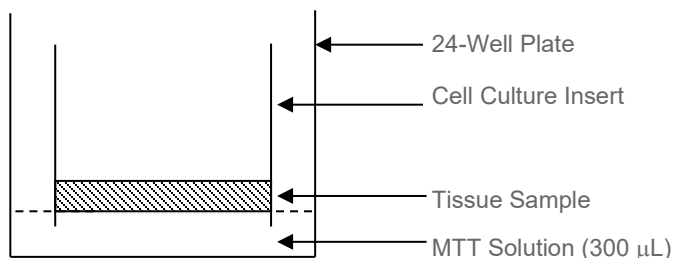

Figure 2: Incubation in the MTT Solution (37°C, 95% rH, 3 hrs, 5% CO₂)
- j) **MTT loading:** Return the tissue samples in the 24-well plate to the incubator for 3 hours. **See Figure 2.** Note: Deviations from the 3 hour time for MTT incubation will result in different MTT readings thus the 3 hour MTT incubation time should be strictly adhered.